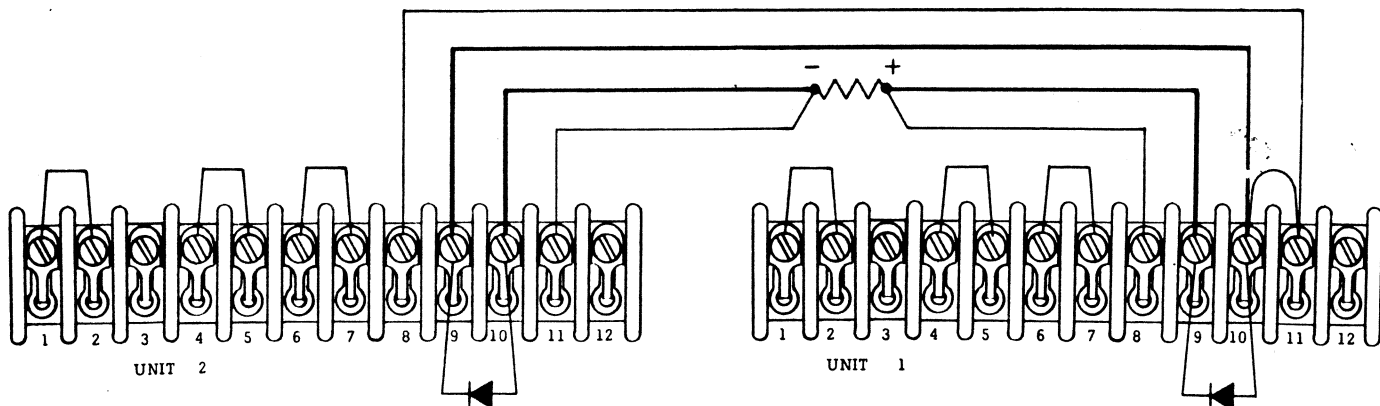

Figure 3-7. Series Operation
a. Recalibrate the current-mode circuit (para 3-12) of the unit at which the negative load lead will terminate (in Figure 3-7, this is unit 2).
d. Remove links between terminals 8 and 9, and 10 and 11 on both units. Hook up load leads first and then sensing leads. Use twisted wires or shielded cable for sensing leads where possible. Connect protective rectifiers across output as shown in Figure 3-7. Refer to para 3-32 for rectifier recommendations.